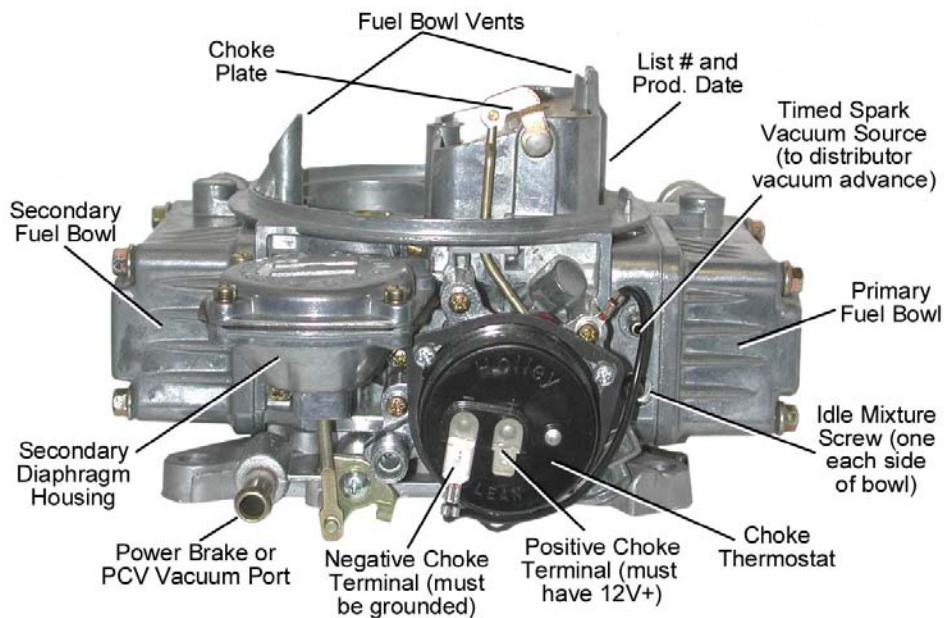
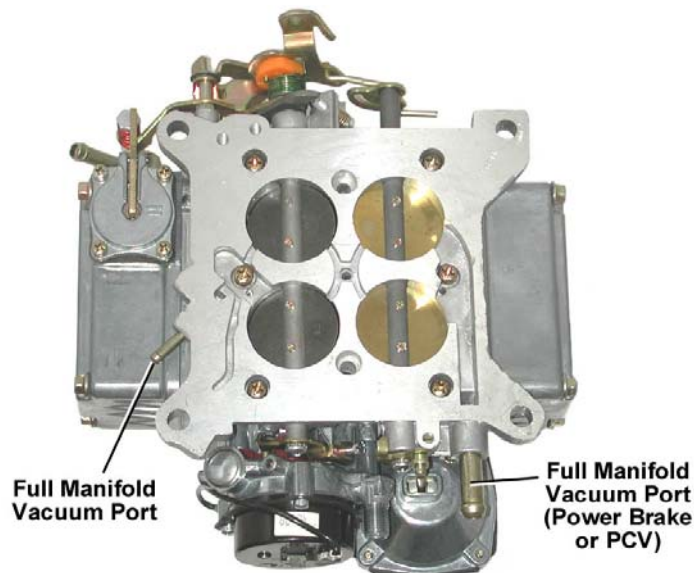

Figure 2a. (0-80457S shown, Choke air intake not drilled)
Figure 3
6. Reconnect the appropriate vacuum hoses to the carburetor, noting the correct fitting from Figure 2a and Figure 3. Replace any cracked or dry rotted hoses at this time to prevent any vacuum leaks.
8. Connect the power brake and/or PCV hose to the fitting as shown in Figure 3.
1. Attach the vacuum gauge to a manifold vacuum port on the throttle body (Figure 3).